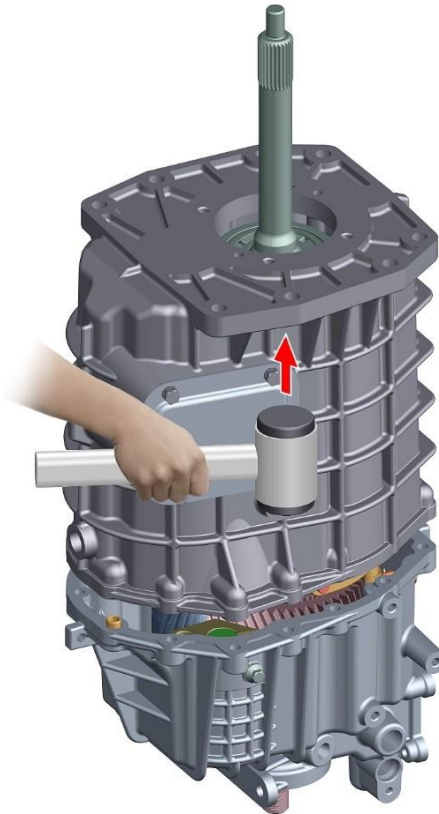

Fig. 3.13. Front and rear housings separation
- separate the front and rear gearbox housings by holding the rear housing and moving the front housing (acting on the clutch housing mounting flange) (Fig. 3.13). When separating the housings, do not force on primary shaft tailshaft face to avoid damage to the synchronizer;